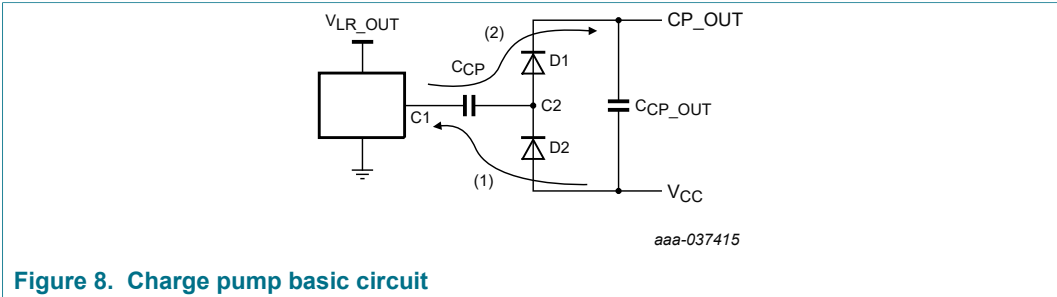

Figure 8. Charge pump basic circuit
The charge pump generates the high-side driver supply voltage (CP_OUT), buffered at CCP_OUT. Figure 8 shows the charge pump basic circuit without load.
When the oscillator is in low state [(1) in Figure 8], C_{CP} is charged through D2 until its voltage reaches $V_{CC} - V_{D2}$. When the oscillator is in high state (2), C_{CP} is discharged through D1 in C_{CP_OUT} , and final voltage of the charge pump, V_{CP_OUT} , is $V_{CC} + V_{LR_OUT} - 2V_D$. The frequency of the 33883 oscillator is about 330 kHz.